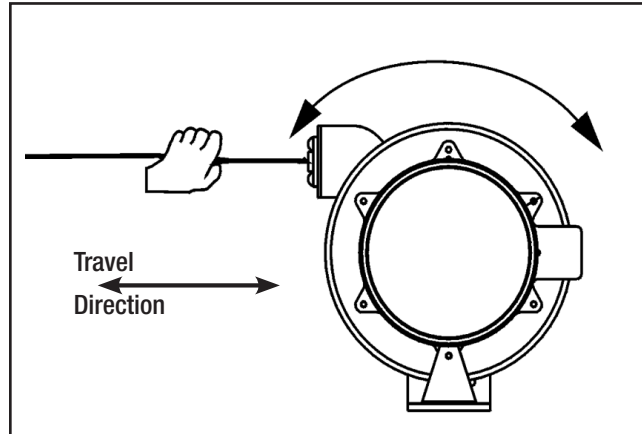

Figure 12-1 Rotate Spool While Holding Cable to Test the Spring Tension
- Pull the cable out the intended travel distance and allow it to rewind. This procedure should be repeated five (5) to ten (10) times in order to set the spring. Walk the cable back to the reel during the spring tension adjusting process. See **Figure 12-1**.